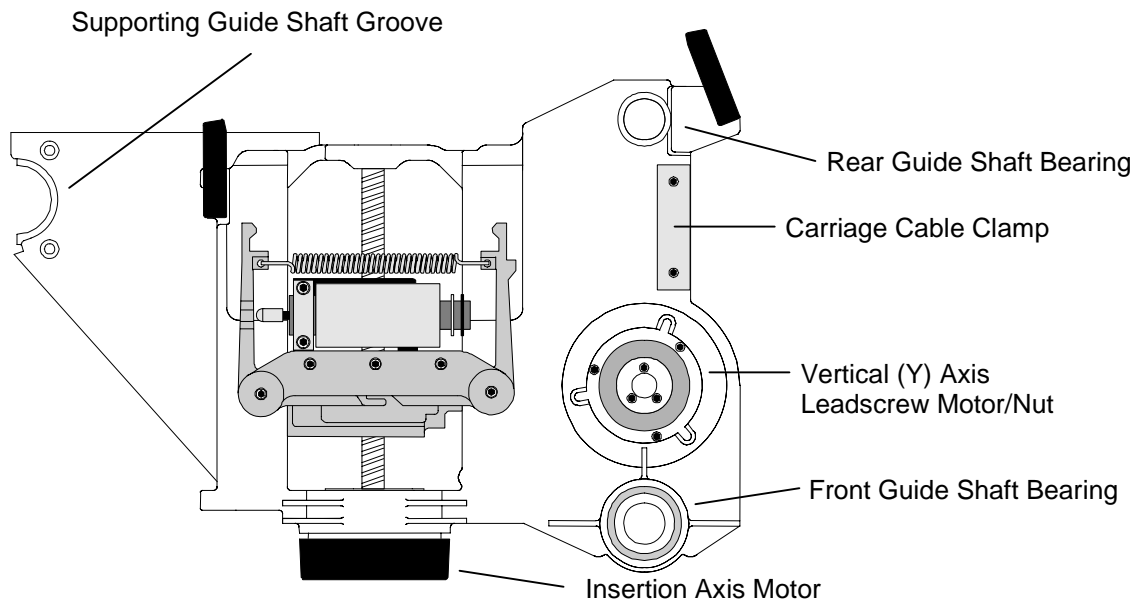

Figure 7-12 The TLS-412300/600 Carriage Assembly (P/N 500650-02-3)
4. Hold the front Guide Shaft about 10 inches above the bottom plate with the left hand. Insert the Carriage Assembly into the cabinet. For TLS-412300/600 models only, position the carriage assembly so that the supporting guide shaft is aligned in the supporting guide shaft groove of the Carriage Assembly (Figure 7-12). Slide the Front Guide Shaft through the Front Guide Shaft Bearing. Lower the Front Guide Shaft down through the orange rubber bushing and into the hole in the bottom plate.